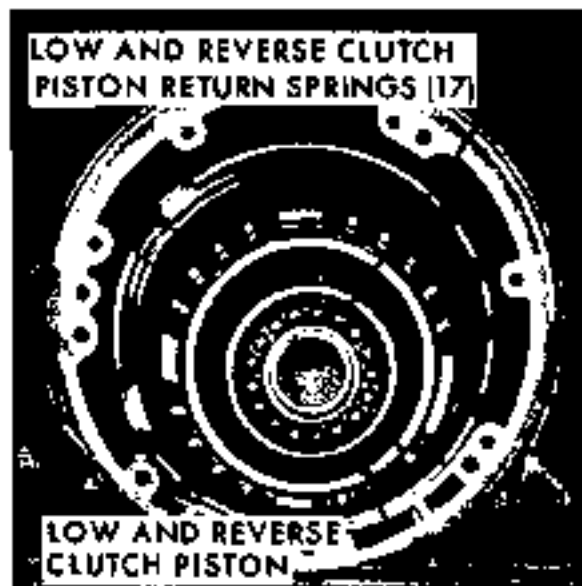

Fig. 7G-109 Low and Reverse Clutch Piston and Springs in Case
2. Install piston assembly into its bore in case (Fig. 7G-108).